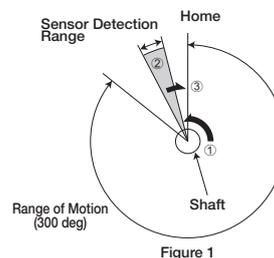

Figure 1
In the RCS2 rotary type home-return operation, the axis turns and the home-return sensor detects, and the home-return is completed at the position where the Z-phase is detected as inverted. At this time, the axis rotates in the counter-clockwise direction ①, seen from the direction of the axis, and rotation stops when the sensor detection is inverted ② and the Z-phase is detected ③. (See Figure 1)